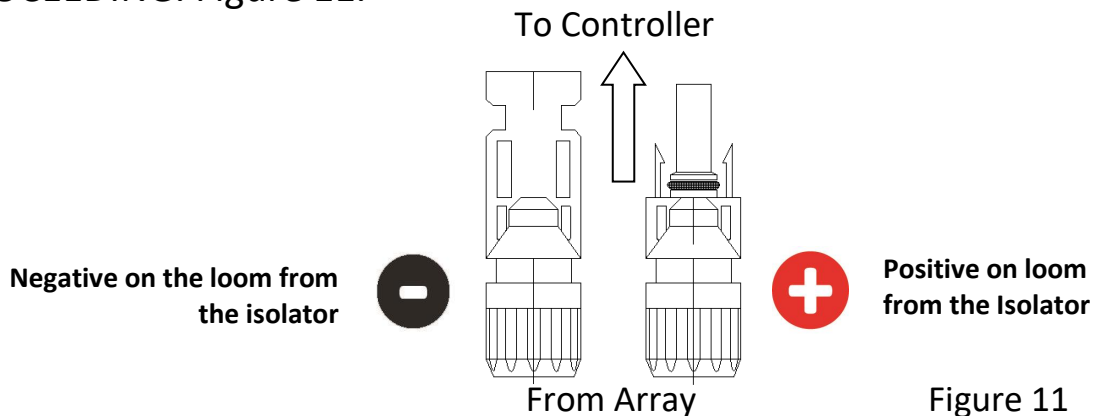

Figure 11
2. TURN ISOLATOR ON AND TEST CORRECT POLARITY TO CONFIRM BEFORE PROCEEDING. Figure 11.